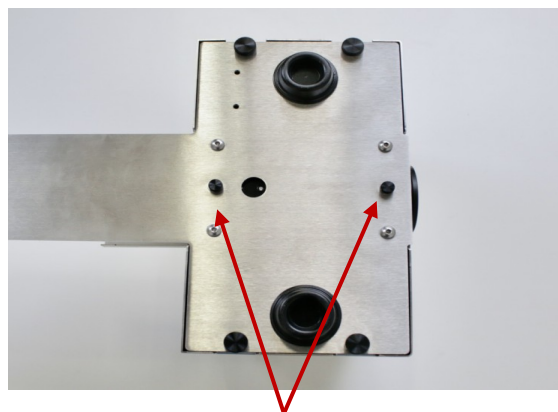

Figure 3.2.7
- Attach cover using thumb screws. **Figure 3.2.7**